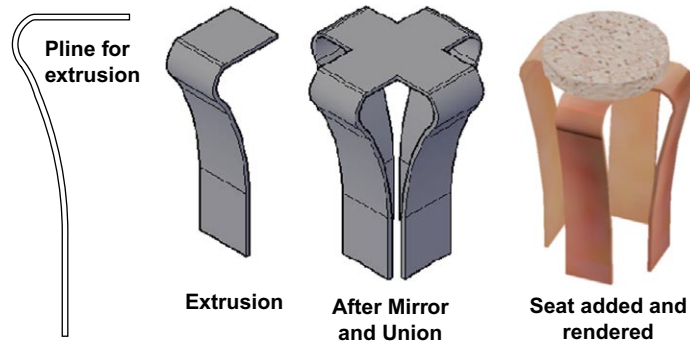

Fig. 15.39 Stages in constructing a stool
5. Add a cylindrical cushion and render (Fig. 15.39).